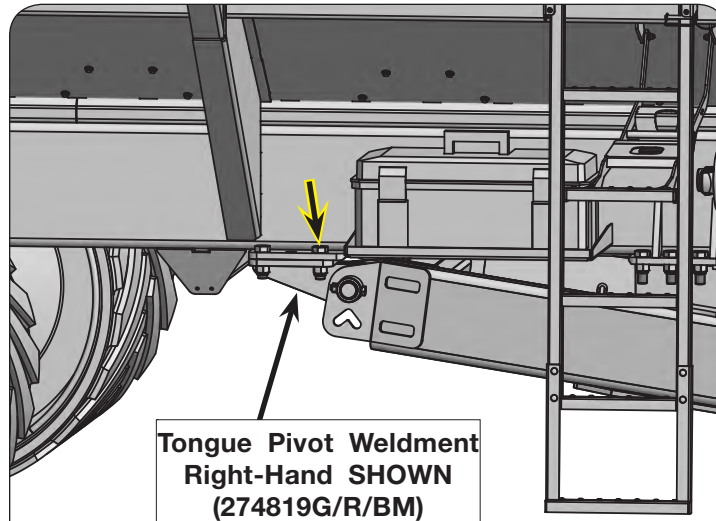

FIG. 2-10
10. Remove and save the 1"-14UNS x 3" capscrews (9390-409) and 1"-14UNS elastic lock nuts (9008441) from the tongue pivot weldments (left-hand 274818G/R/BM; right-hand 274819G/R/BM). (FIG. 2-10)